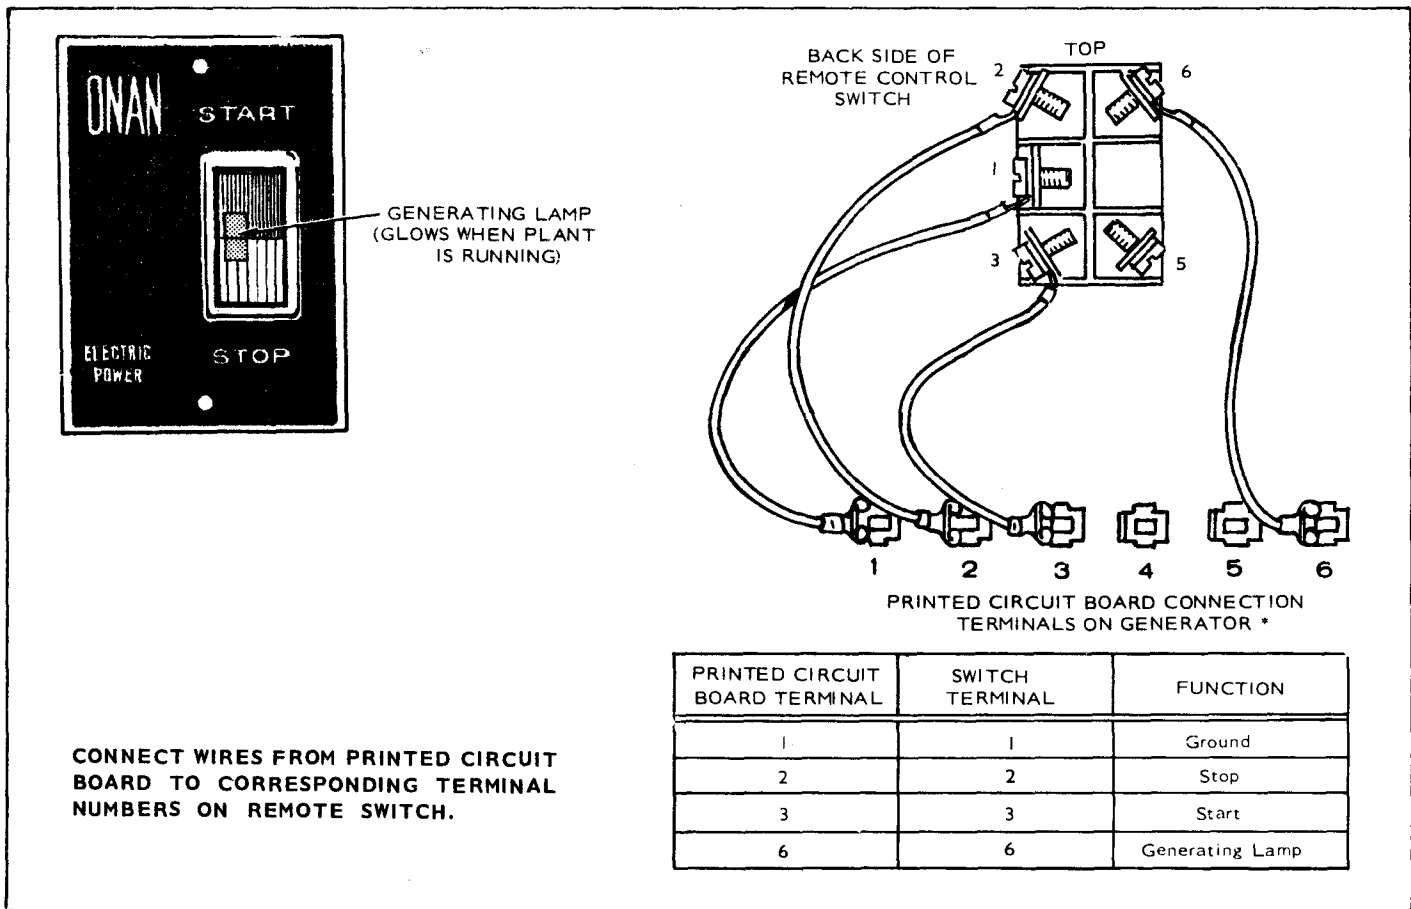

FIGURE 6. REMOTE CONTROL SWITCH (300-0985)
3. Connect leads from printed circuit board terminals to remote control terminals as shown in Figure 6.
Terminal numbers are stamped on the back of remote panel. Figure 6 schematic shows actual layout of terminals looking at the rear of remote control switch.